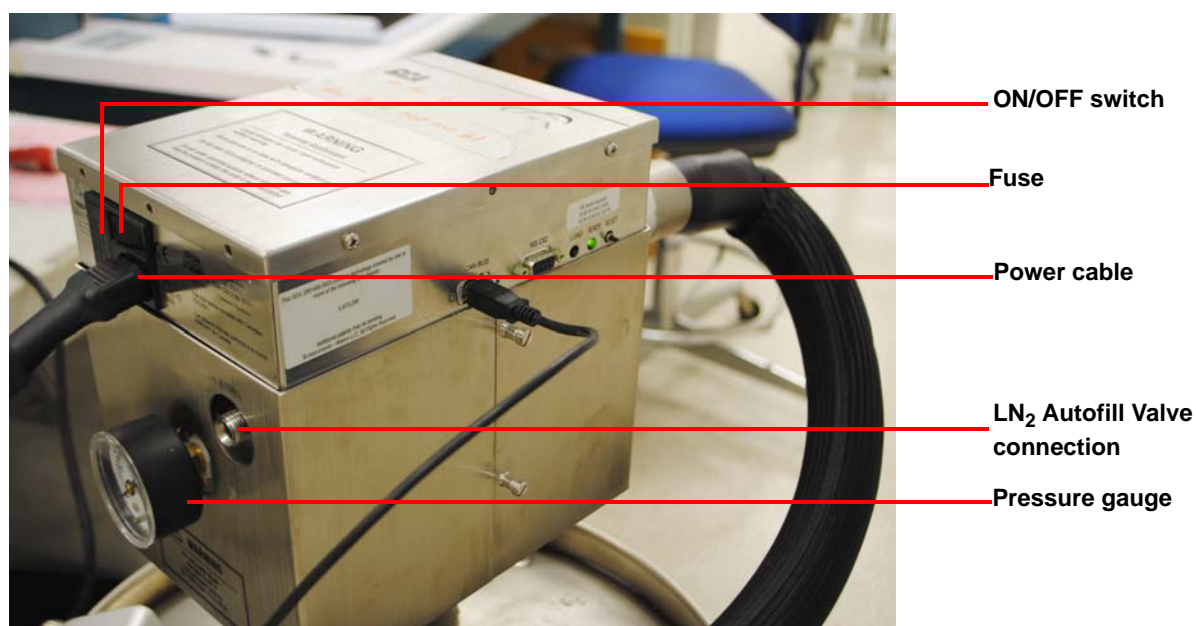

Figure 4 GCA top section.
- 5 Connect the USB CAN BUS cable from the DMA 850 to the GCA. See Figure 4.